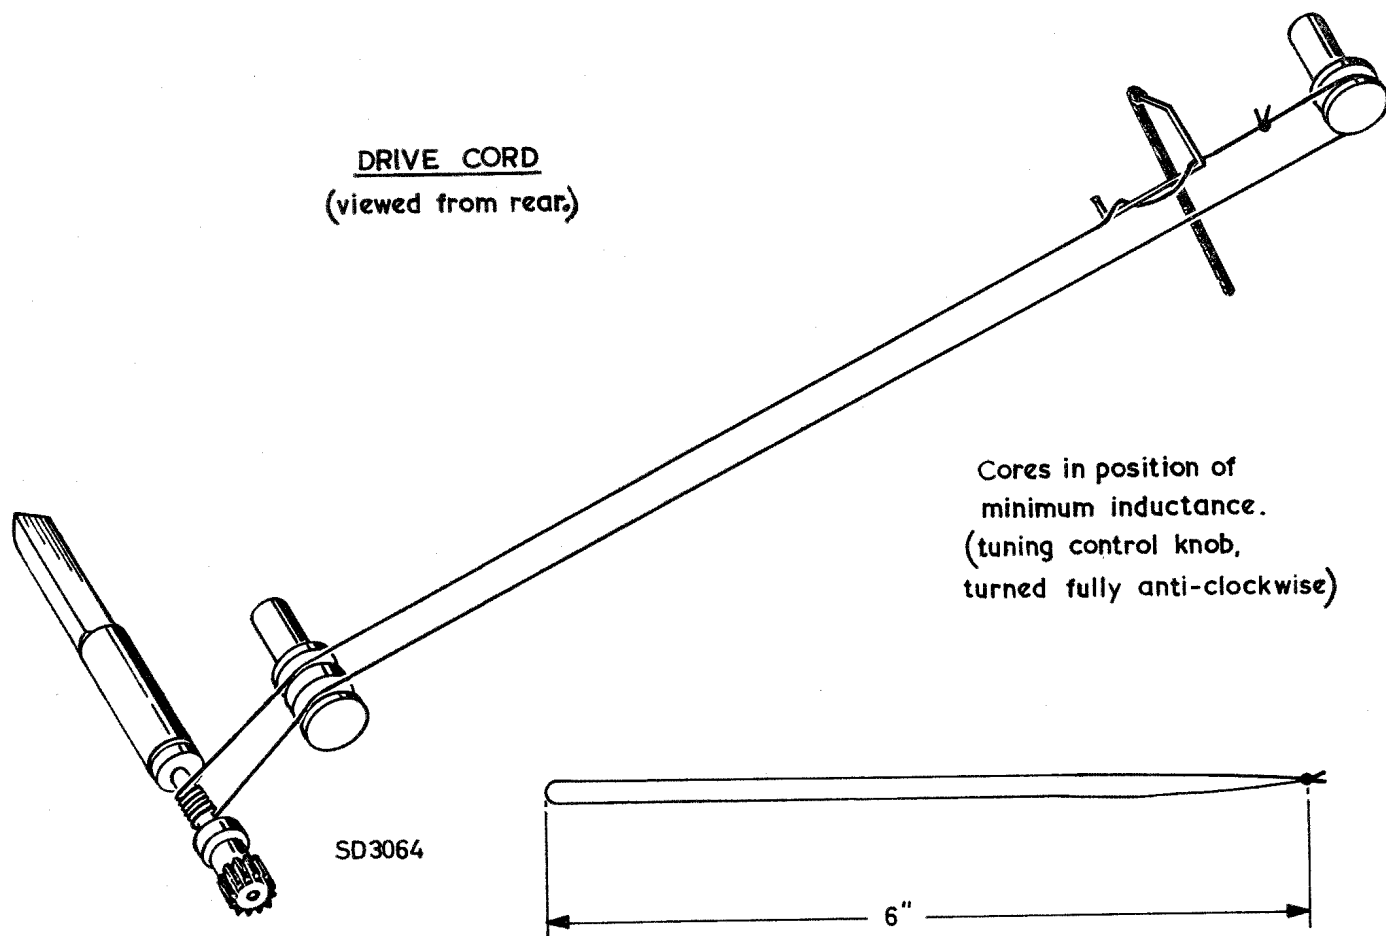

Fig. 1.
- (ii) Prepare and fit new cord as illustrated Fig. 1:—With front panel viewed from the rear, wind cord $5\frac{1}{2}$ turns, anti-clockwise from panel bush rearwards, round spindle of tuning control. Lead loop of cord (held taut) across panel (under double pulley, over centre pillar) and loop end round single pulley. Rotate tuning control spindle to position knot in upper run of cord approximately $\frac{1}{4}$ " to the left of single pulley. Ensure that the $5\frac{1}{2}$ turns round tuning control spindle lie flat (not crossed over each other), then slide the turns along the spindle to the rear end. Lift the upper (front) run of the cord to pass over the front groove of the double pulley and the lower (rear) run to pass over the rear groove. Fit pointer on upper run of cord immediately to the left of the knot.